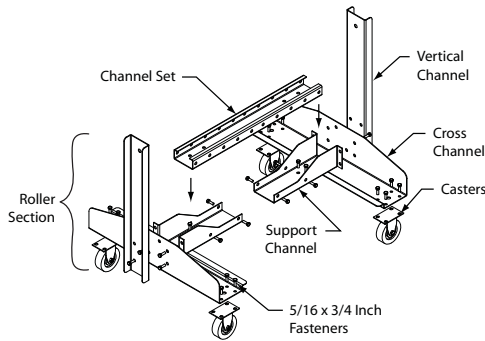
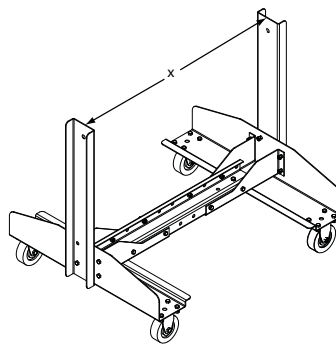

Figure 5 — Roll-About Floor Stand Assembly
Figure 6 — Fan Width Dimension For Roll-About Floor Stand
1. Refer to Figure 5. Assemble (1) Vertical Channel to (1) Cross Channel using (2) 5/16 x 3/4 inch fasteners.
2. Assemble the Cross Channel to a Support Channel using (4) 5/16 x 3/4 inch fasteners to form (1) Roller Section. Refer back to Figure 5.
4. Attach (2) Swivel Casters on the first Roller Section using (4) 5/16 x 3/4 inch fasteners for each caster. Attach (2) Rigid Casters to the second Roller Section using (4) 5/16 x 3/4 inch fasteners for each caster.
5. Refer to the table and Figure 6 (page 3) for appropriate fan width. Align the Channel Set between the Roller Sections, slide Roller Section either direction to desired width. Fasten